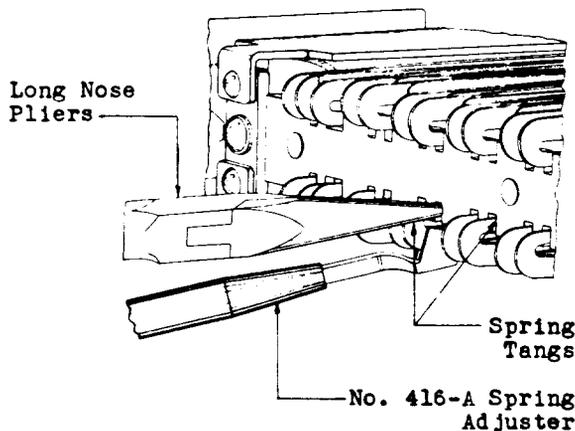

Fig. 18 - Method of Adjusting Spring Tang for Contact Separation
(3) Normally Open Contact (Except normally open contact of transfer combinations). If the contact separation is not satisfactory insert the .012" blade of the No. 66-D gauge between the armature arm and the armature travel adjusting screw. If most of the contacts are open under this condition adjust the tangs of the front contact springs that closed when the gauge was inserted, using the long-nose pliers while holding the spring with the No. 416-A spring adjuster as shown in Fig. 18.
(5) Then shift the back stop bar by moving the 4" regular screw-driver to the left or right until the maximum number of contacts are open with the .012" gauge inserted as outlined in (3) and closed with the .025" blade of the No. 66-D gauge inserted in its place. Then tighten the back stop bar clamping screws securely with the 3-1/2" cabinet screw-driver.
(6) If necessary, adjust the tangs of the front contact springs that did not open with the .012" gauge inserted or did not close with the .025" gauge inserted until they meet the required gauging. Adjust the tangs as outlined in (3).
(7) Normally Open Contact of Transfer Combinations If the contact separation is not satisfactory on the normally open contacts of the transfer spring combinations adjust the tang of the front contact spring with the long-nose pliers holding the spring with the No. 416-A spring adjuster as shown in Fig. 18 until the contact does not make with the .012" blade of the No. 74-D gauge inserted between the armature arm and the armature travel adjusting screw and does make with the .020" blade of the No. 66-D gauge inserted in the same place.
(8) Normally Closed Contacts of Transfer Combinations If the contact separation is not satisfactory on the normally closed contacts of the transfer combinations adjust the tang of the back contact spring with the long-nose pliers, holding the spring with the No. 416-A spring adjuster as shown in Fig. 18 until the contact does not make with the .035" blade of the No. 66-D gauge inserted between the armature arm and the armature travel adjusting screw and does make with the .030" blade of the same gauge inserted in the same place.
(9) If the separation between the contacts of those springs of the make make spring combinations which are tensioned against opposite sides of the slots in the draw bar is not satisfactory, correct by adjusting the tang of one of the springs as follows: Determine approximately the amount of adjustment necessary and then remove the back stop bar and draw bar as outlined in procedure 3.04, (1) to (3), inclusive. Adjust the tang using the long-nose pliers while holding the spring with the No. 416-A spring adjuster. Replace the draw bar and back stop bar as outlined in procedure 3.04, (7) to (10), inclusive.
(10) If the separation between the contacts of those springs of the make make spring combinations which are tensioned against the back stop bar and against the draw bar in the direction toward the magnet is not satisfactory, correct as follows:
(11) If only a few of the contacts do not meet the requirement, adjust the tang of the back stop spring using the long-nose pliers while holding the spring with the No. 416-A spring adjuster as shown in Fig. 18.